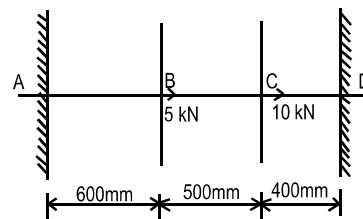

Fig. 3
3. (a) A straight uniform bar AD is clamped at both ends and loaded as shown in Fig. 3. Initially the Bar is stress free. Determine the stresses in all the three parts (AB, BC, CD) of the bar if the cross-sectional area of the bar is 1000mm².